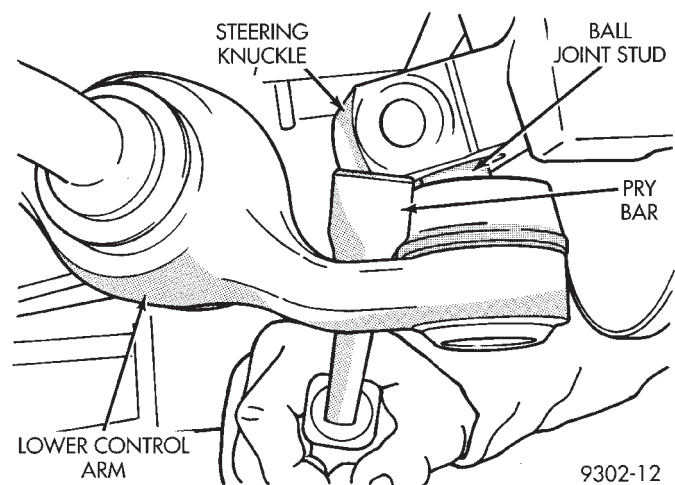

**Fig. 39 Separating Ball Joint From Steering Knuckle**
(4) Carefully insert a pry bar between lower control arm and steering knuckle (Fig. 39). Push down on pry bar to separate ball joint stud from steering knuckle (Fig. 39).